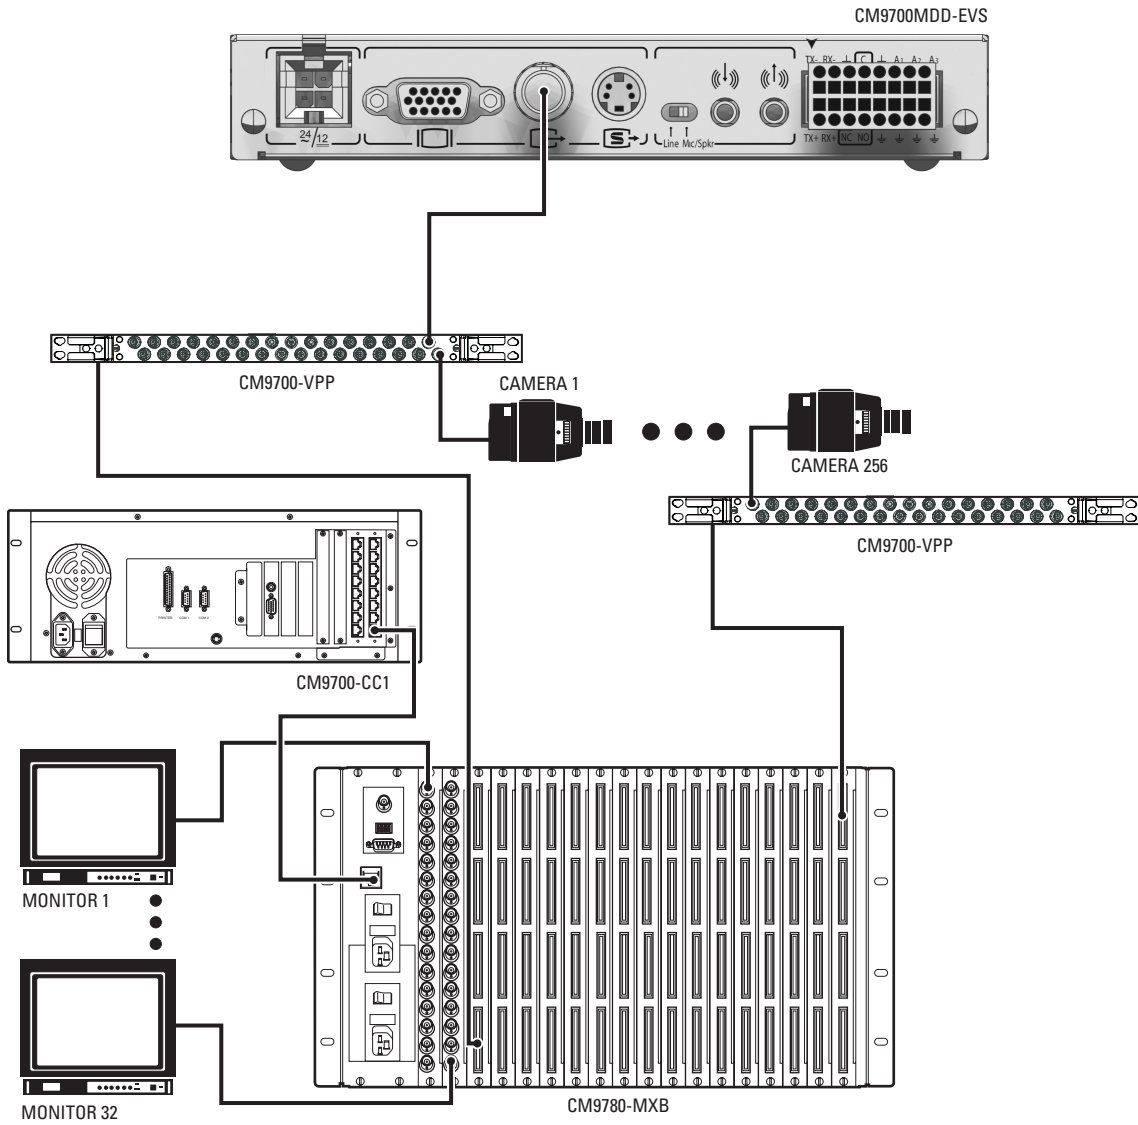

Figure 15. Sample Video Connection Between the CM9700MDD-EVS and the CM9780-MXB
- In a System 9780, video input connectors are on the CM9700-VPP panel, as shown in Figure 15.
NOTE: Figure 15 illustrates a sample video connection. Video from the CM9700MDD-EVS can be connected to any unused input on the matrix bay.